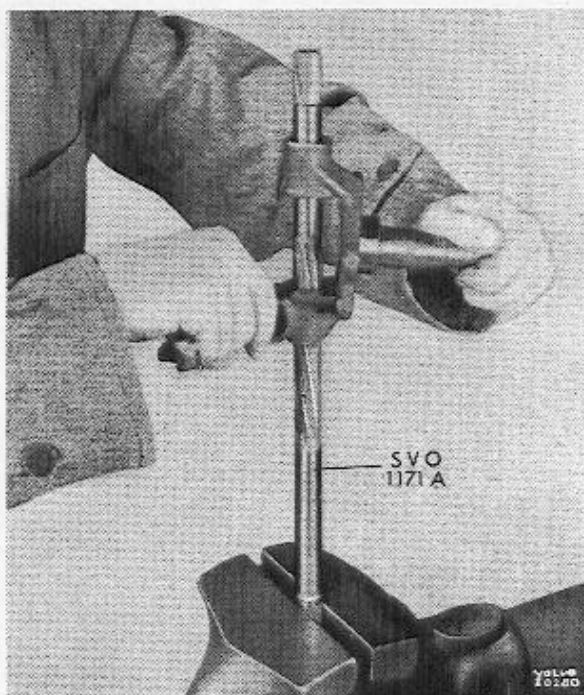

Fig. 14. Reaming of king pin bushings.
2. Ream the bushings with reamer SVO1171A (fig.14) which shows an earlier type reamer, and check that the king pin has a light thumb fit. Fit the grease nipples and apply a little chassis lubricant to the bushings.